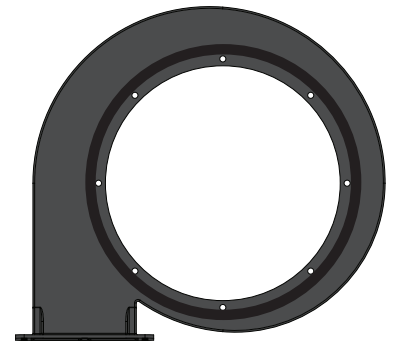

FIG. 2d
- Apply to the top of the Fan Housing (B) outside the bolt holes [FIG. 2d].